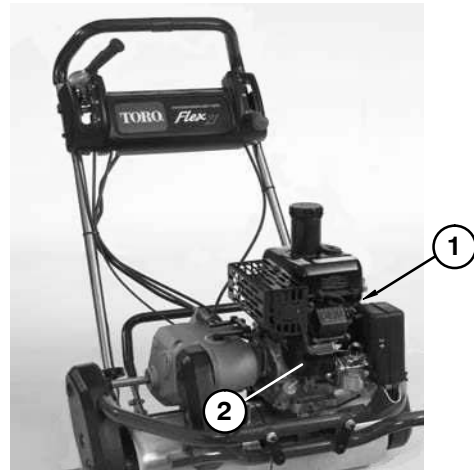

Figure 11
2. Clean cooling fins on cylinder and cylinder head. Remove engine shroud from cylinder for more thorough cleaning (Fig.11).